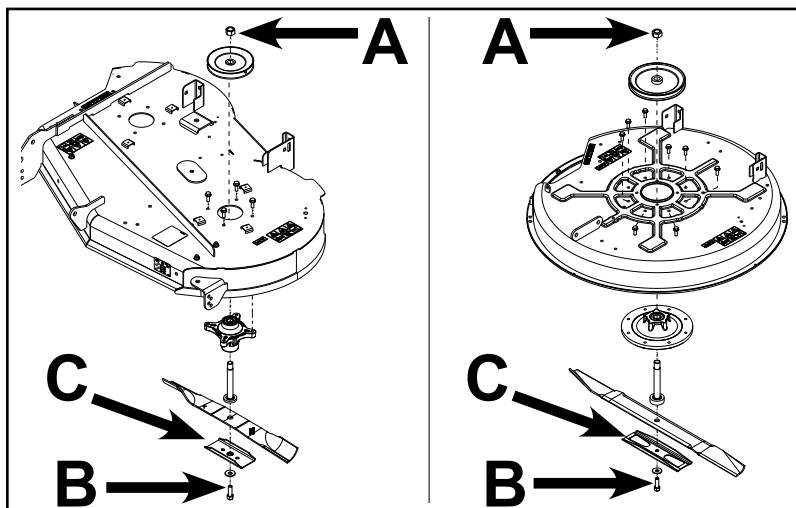

Fig. 110
4. Safely hold the blade in position and remove the spindle pulley nut (A) (Fig. 110). Inspect the pulley and spindle shaft for excessive wear and replace if necessary.
- 32 inch decks use (8) self-tapping bolts for spindle mounting
- 42-50 inch decks use (4) self-tapping bolts for spindle mounting
7. Remove blade bolt (B) and washer (Fig. 110).
8. Remove blade stiffener (C) if equipped (Fig. 110).